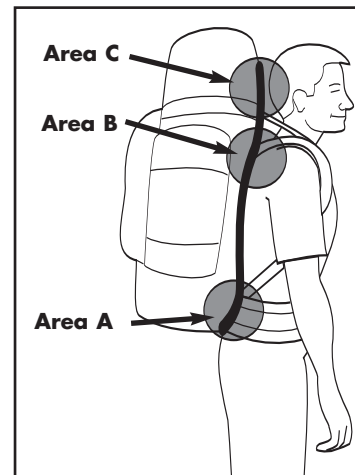

Figure 2K
G. When the waistbelt and shoulder straps are in the correct positions, walk around and notice how the pack feels against your back. The pack should conform to your back as in (Figure 2K). Use the short evaluation below to ensure a great fit. Take notice of any pressure points and trouble shoot them in the next section.